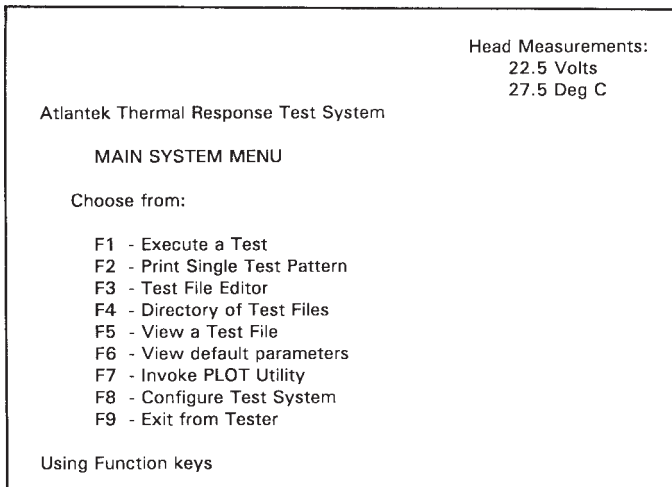

FIG. 2 Main System Menu
13.3 Upon striking the Enter key, the computer will check for the presence of a formatted diskette in Drive A and present the main system menu. The monitor screen will appear as shown in Fig. 2.